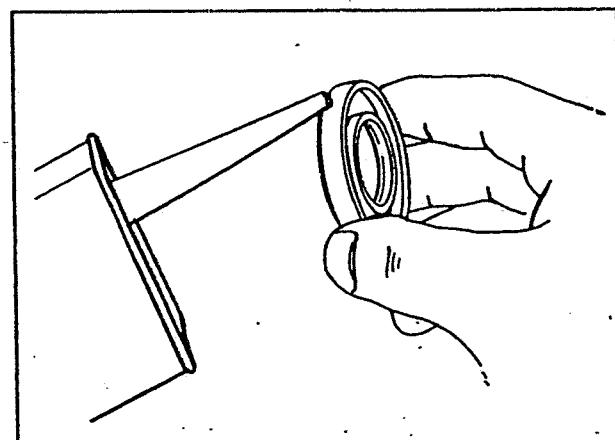

Fig 3.72
- Be sure to apply an adhesive sealant to outer surfaces of right and left crankshaft oil seals, to prevent them from movement (fig 3.72)